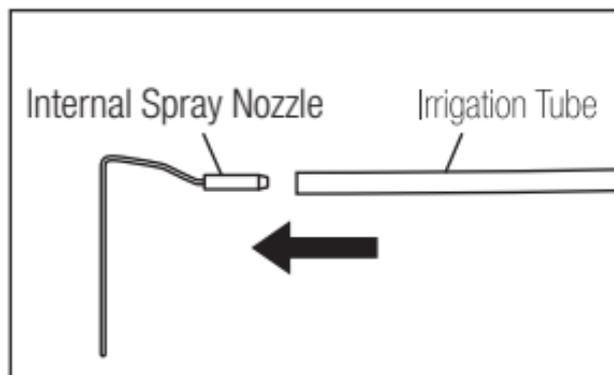

Fig. 6
2) Connect the Irrigation Tube to the Internal Spray Nozzle firmly. (Fig. 6)